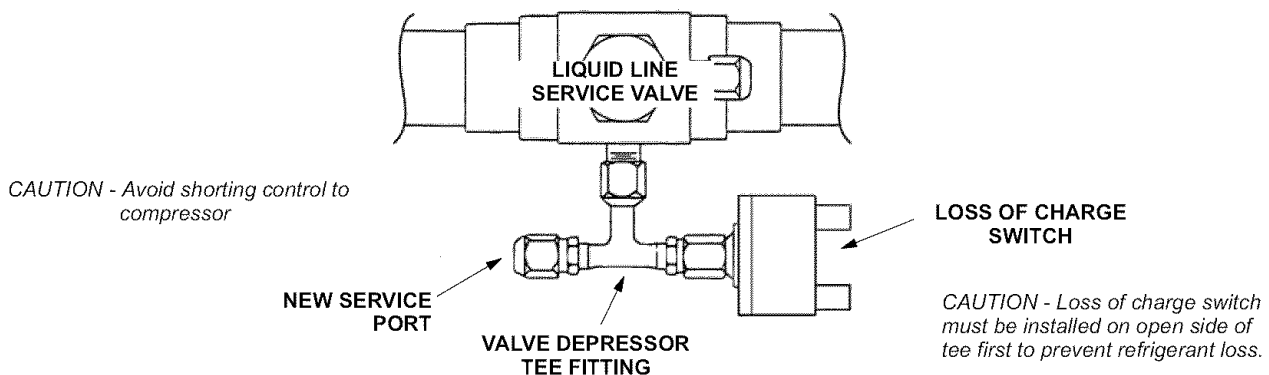

FIGURE 1
- 3 - Install the depressor tee fitting on the liquid line service port. See figure 1 for illustration of typical installation.